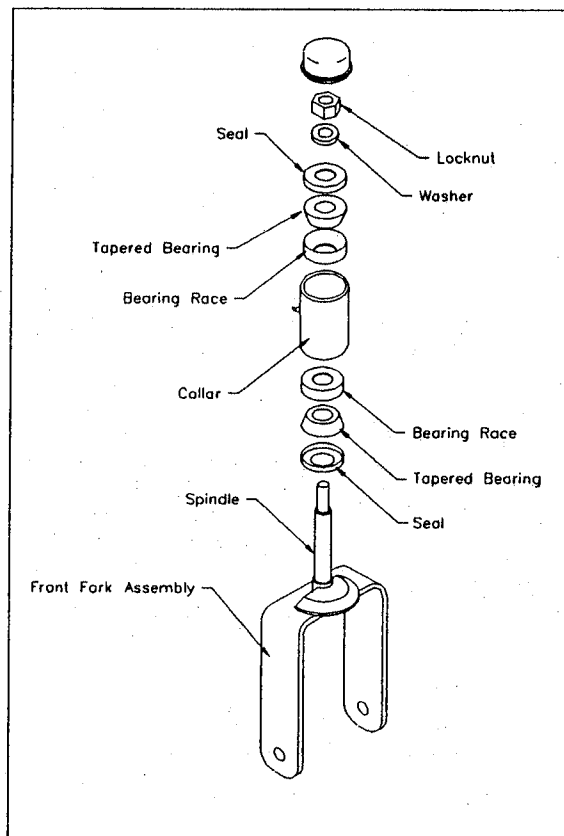

Figure 3-8
- Remove the dust cap covering the top of the spindle (see figure 3-8).